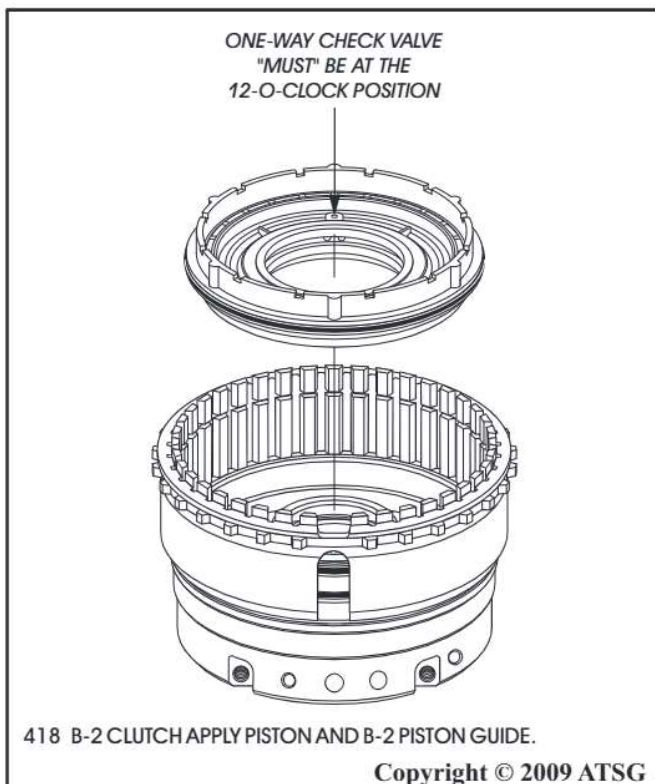

Figure 160
18. Install the B-2 apply piston with B-2 piston guide installed, as shown in Figure 160.
- Note: 1-way check valve must be installed "exactly" at the 12-O'clock position and is shown in Figure 160.**